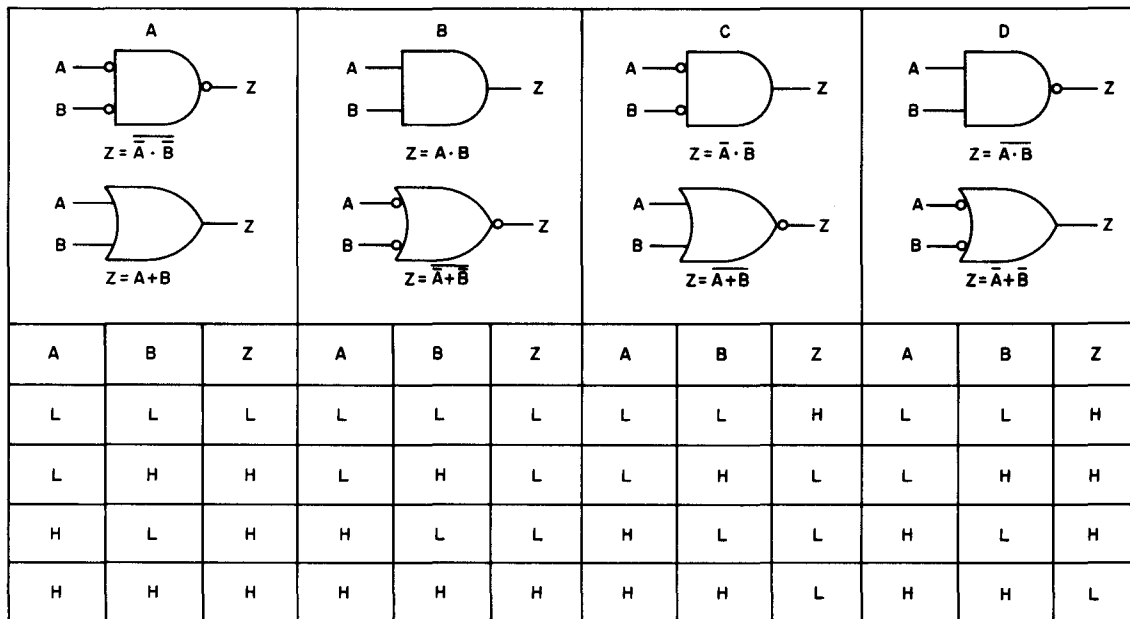

Figure 3-2. Logic Comparison Diagrams
3-13. Two states exist in the binary system, 1 and 0. HIGH (H) and LOW (L) are used to represent the levels of 1 and 0. HIGH always represents the more positive level, whether it be positive or negative logic. Figure 3-2 shows four pairs of logic symbols that have the same truth tables and can be used interchangeably. The same function is performed by what appears to be two different logic symbols.